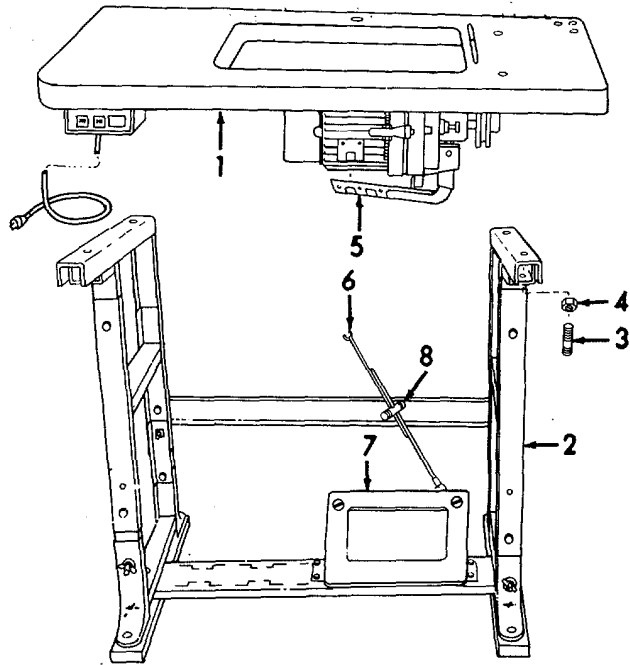

Figure 2-11. Darning Sewing Machine Table, Assembly.
(20) Install bobbin winder (3) to table (2) and secure with two wood screws (4). Adjust for 1/8 inch (3 mm) clearance between bobbin winder pulley and belt.
(21) Install thread unwinder base (5) to table (2) and secure with three wood screws (6).
(22) Install two posts (7), two flat washers (8), two nuts (9), and two pads (10) to cone rest (11).
(23) Install cone rest (11) bottom post (12). Secure the rest (11) by tightening the setscrew (13).
(24) Install thread guides (14) to top post (15) and secure with clip (16), washer (17), and wingnut (18).
(25) Install top post (15) to bottom post (12) and secure by tightening nut (19).
(26) Install bottom post (12) to unwinder base (5). Secure by tightening nut (20).
(27) Install sewing machine rest (21) to table (2).
f. Assembly of Darning Sewing Machine Table (Refer to Figures 2-11 and 2-12).
(1) Assemble the stand in accordance with paragraph 2-9e, steps(1) through (6).
(2) Refer to Figure 2-11. Install a sewing table top which is labeled 678HD (1) on stand (2).
(3) Start all four studs (3). Tighten studs (3) and then tighten all four nuts (4).